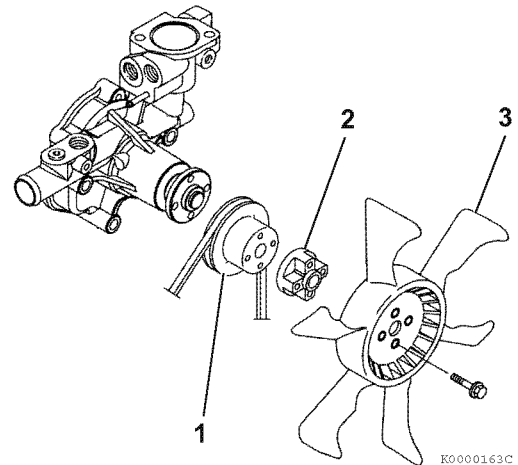

**Figure 9-20**
Inspect the rotor shaft clearance. Measure the outside diameter of the rotor shaft (**Figure 9-20, (1)**) and the inside diameter of the cover.